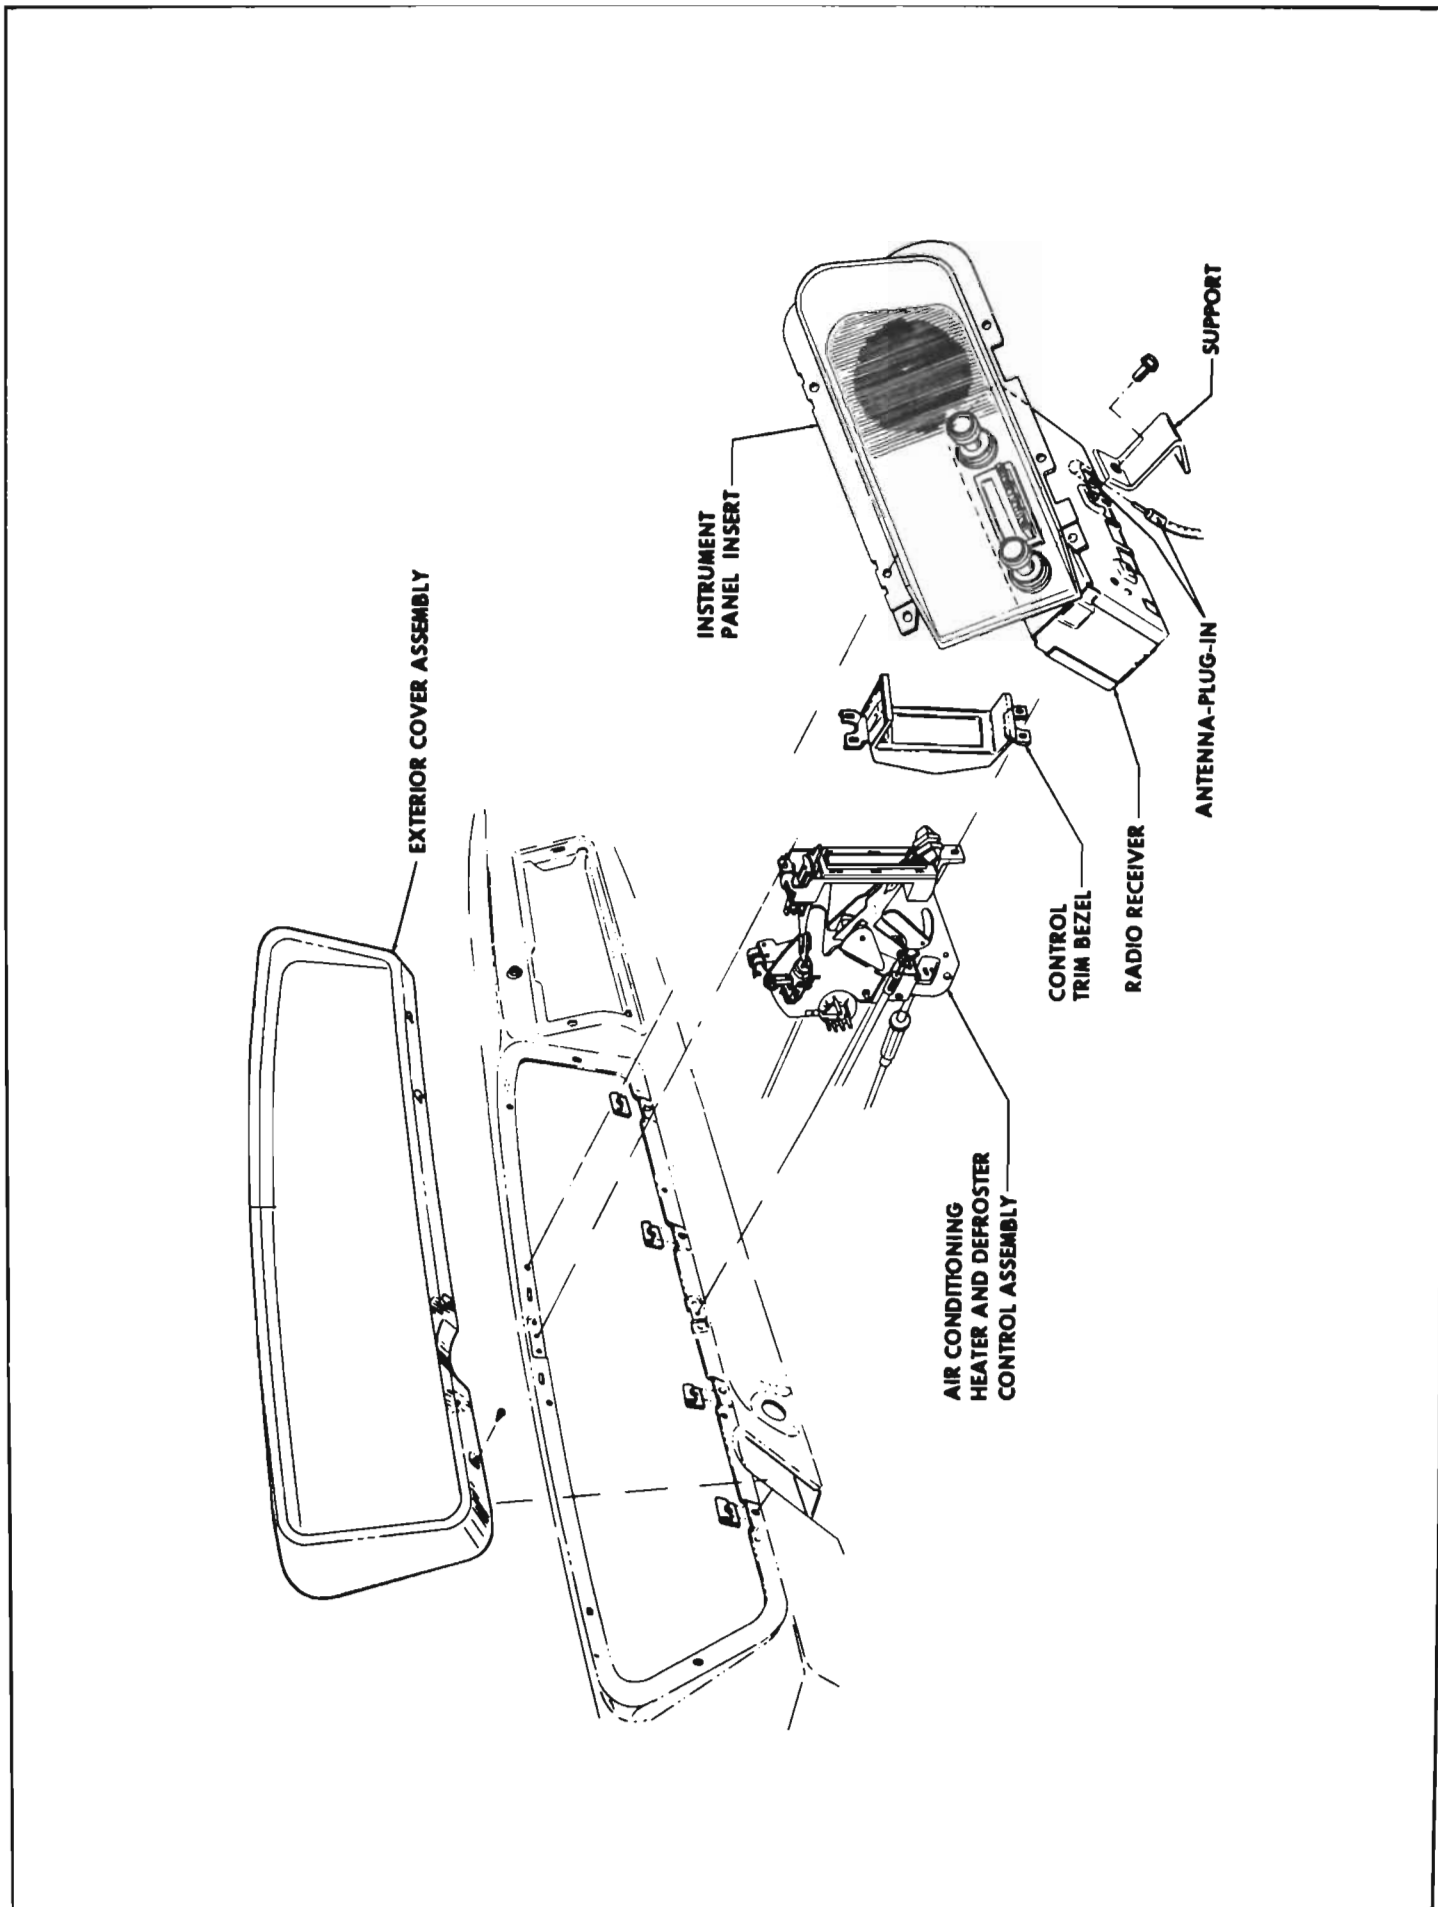

Figure 11-114—Air Conditioner Heater and Defroster Control Assembly Installation
1. Remove five screws and take out exterior cover assembly (see Figure 11-114).
4. Remove four screws securing instrument panel insert (see Figure 11-114) to instrument panel and partially withdraw insert. Disconnect radio lead and antenna lead connectors and complete removal of assembly.